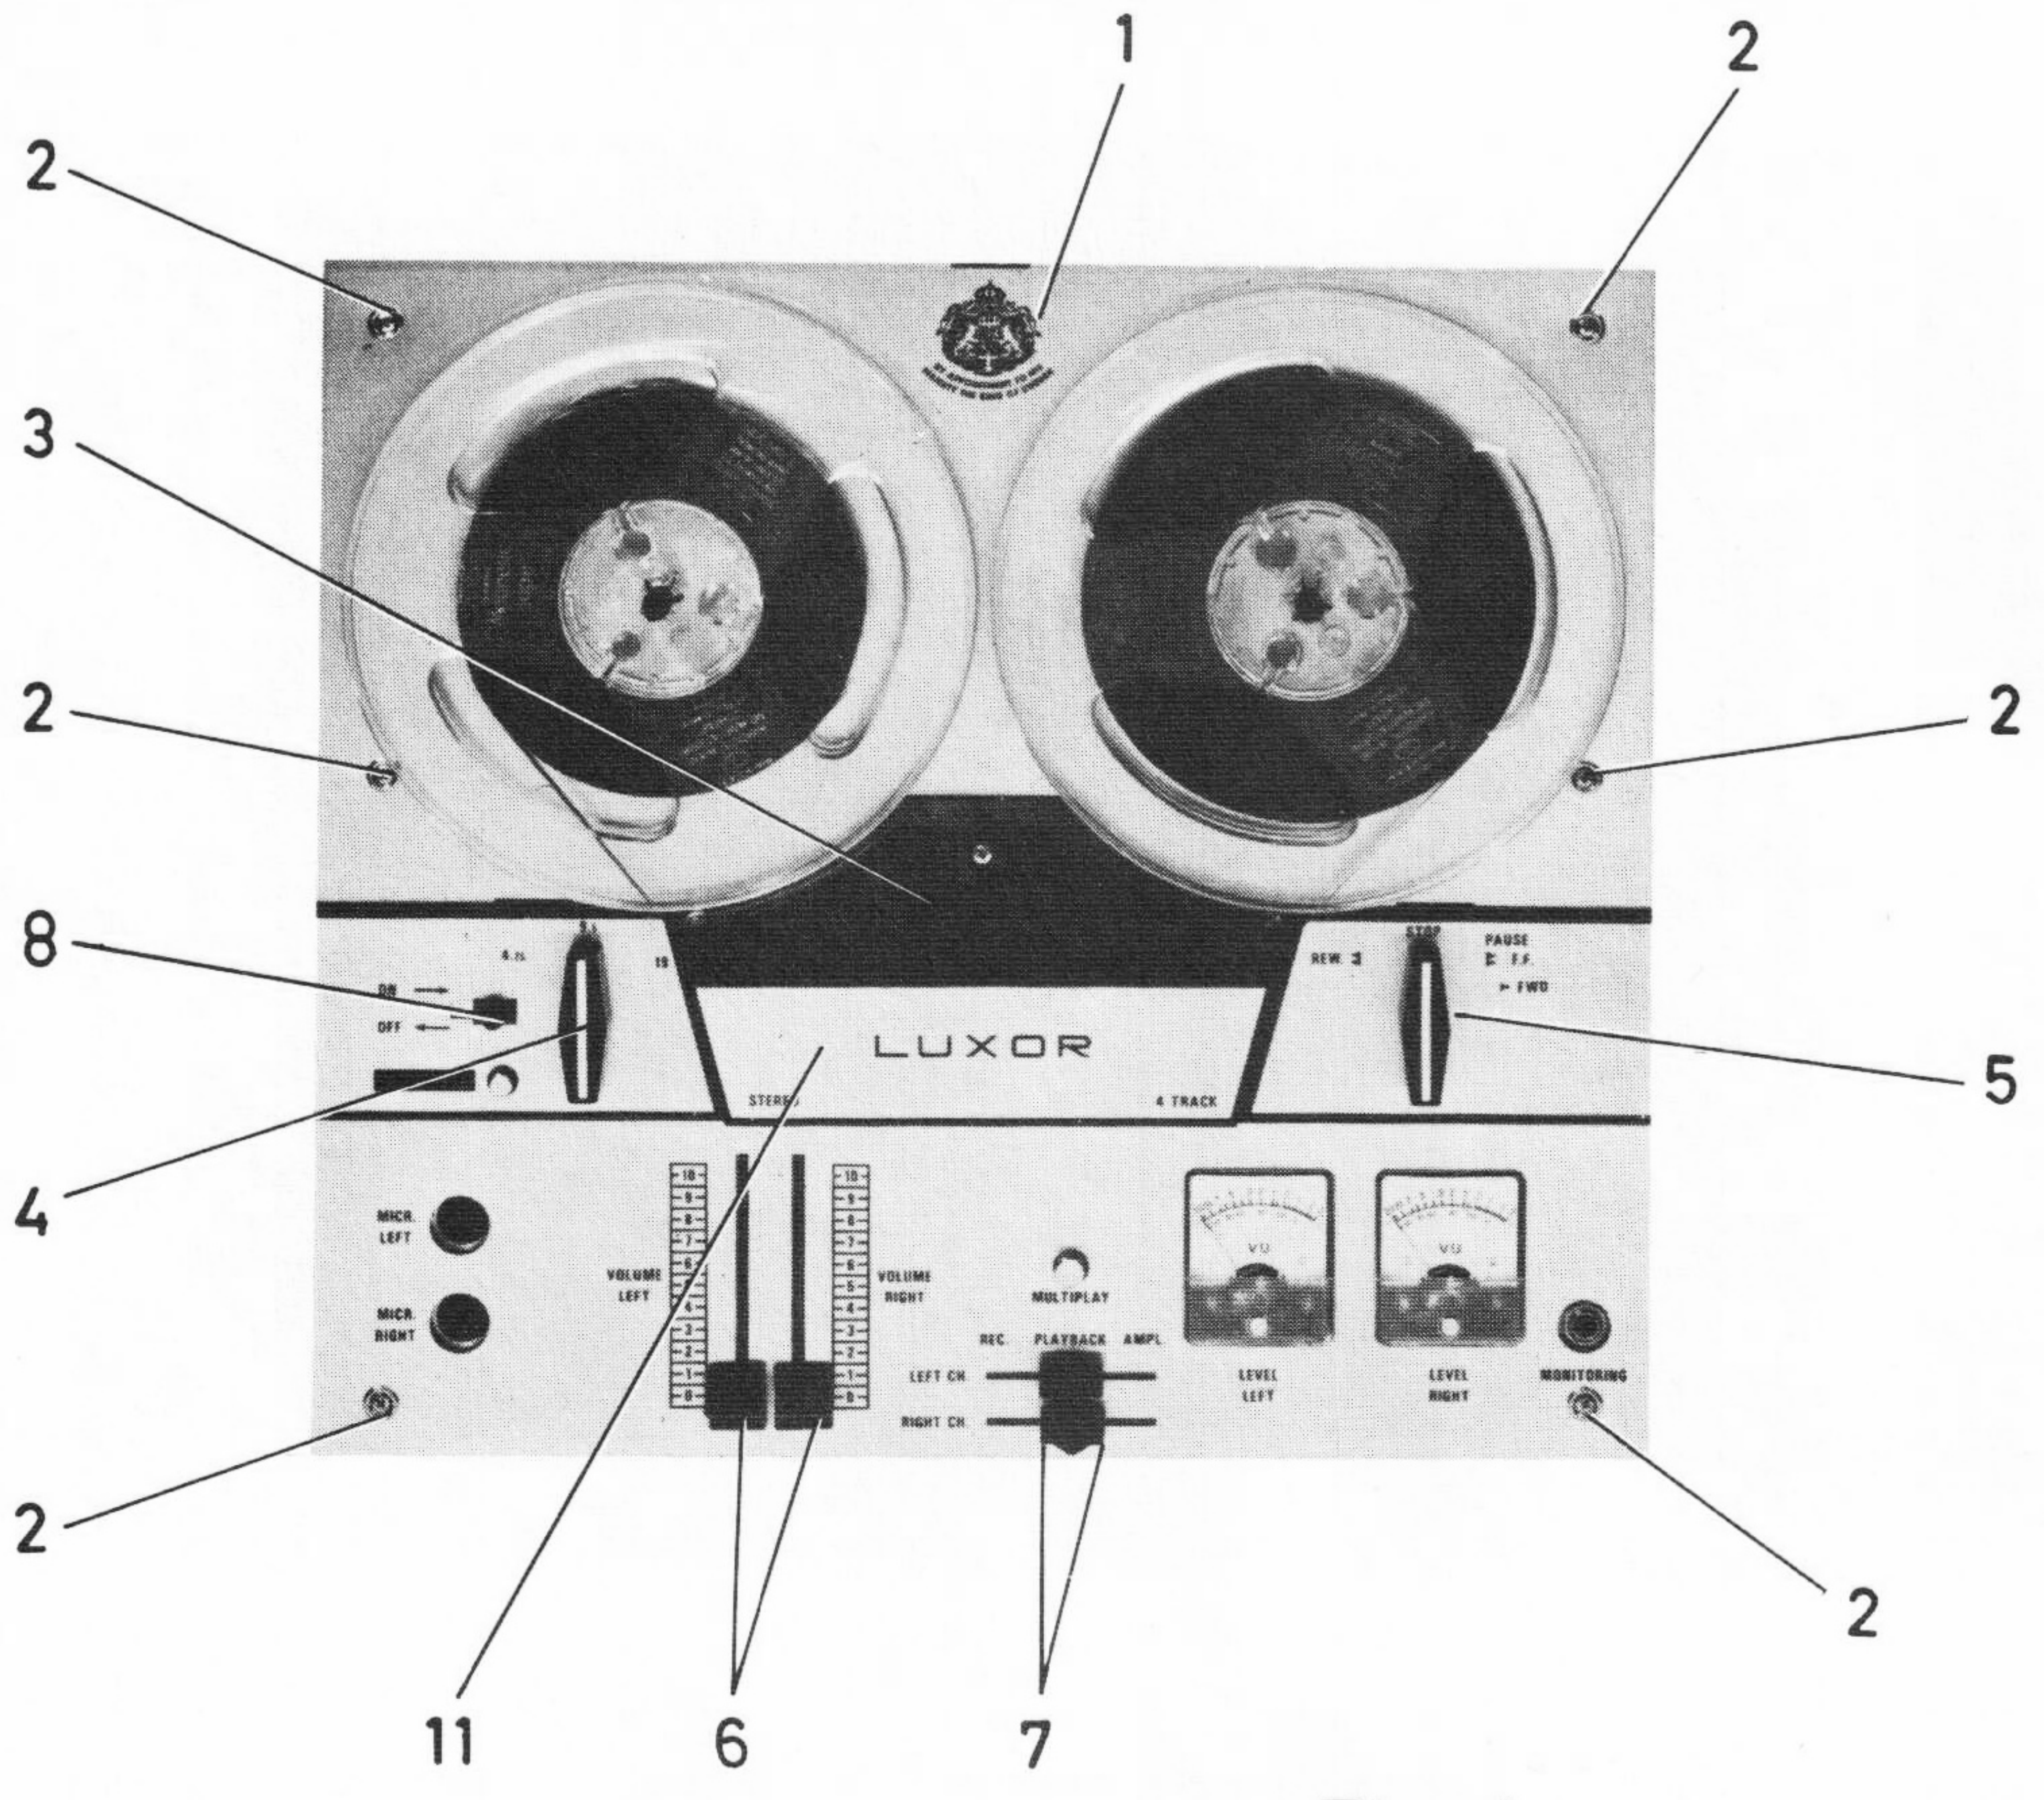
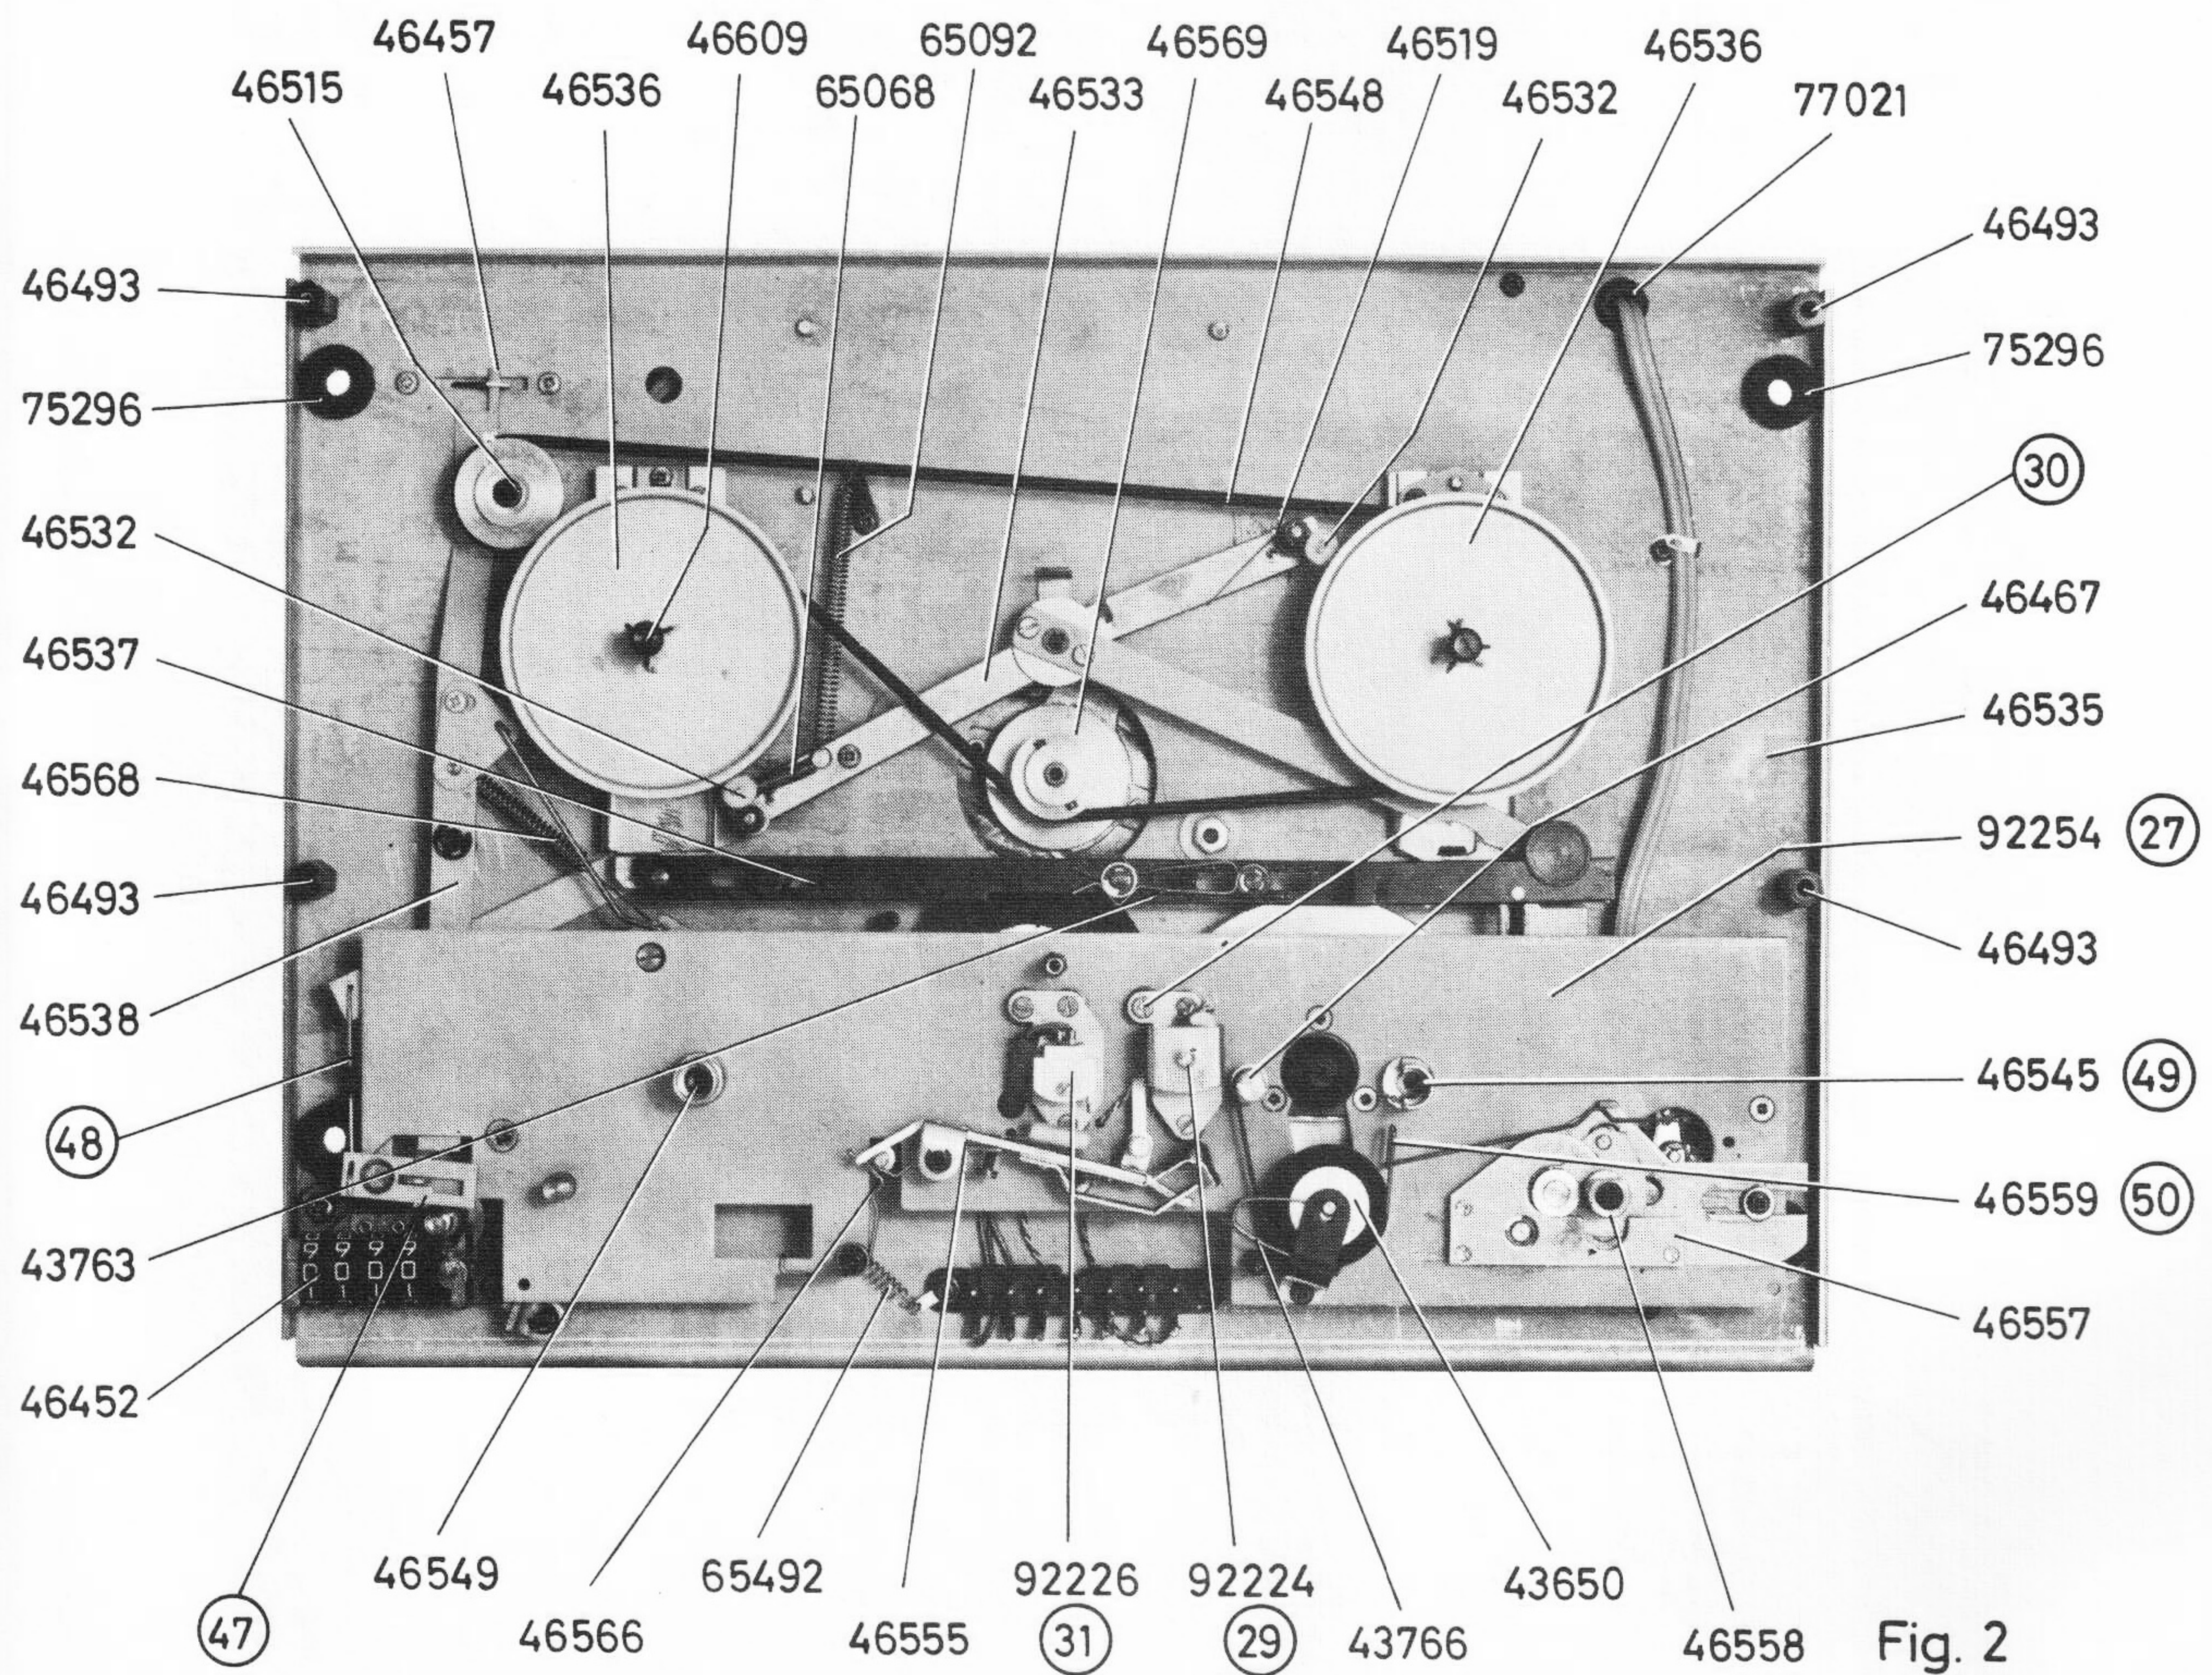
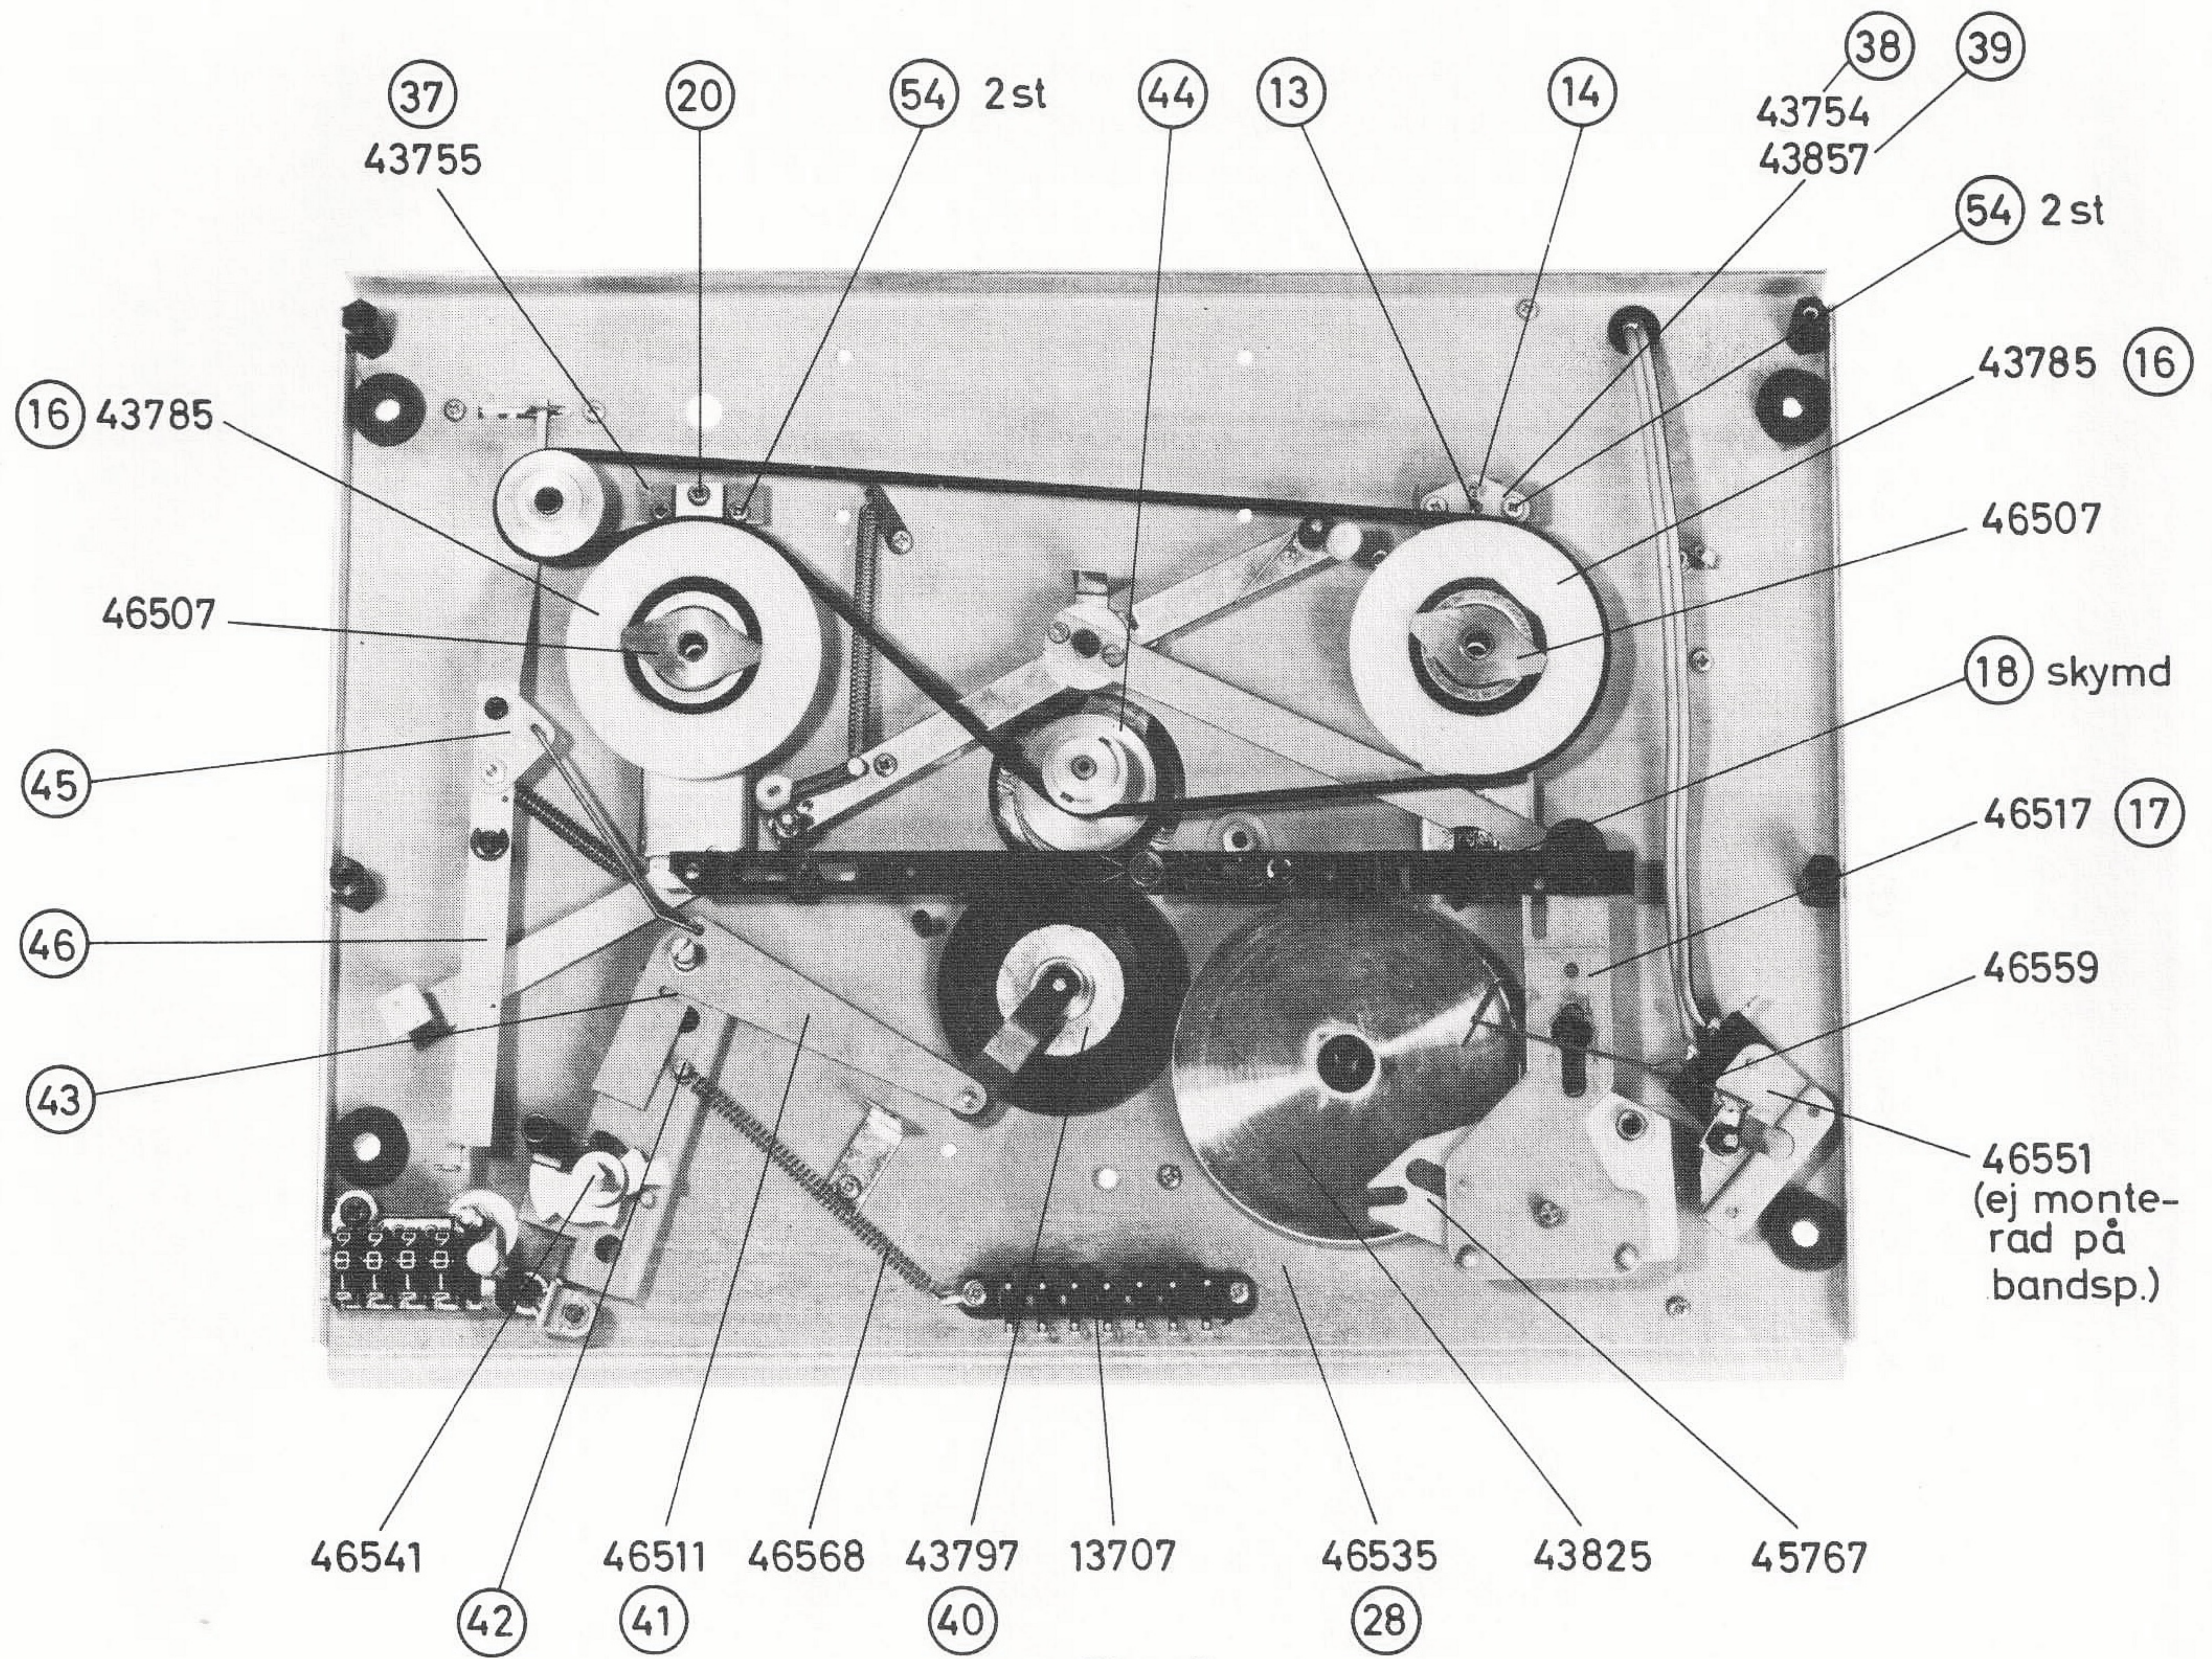
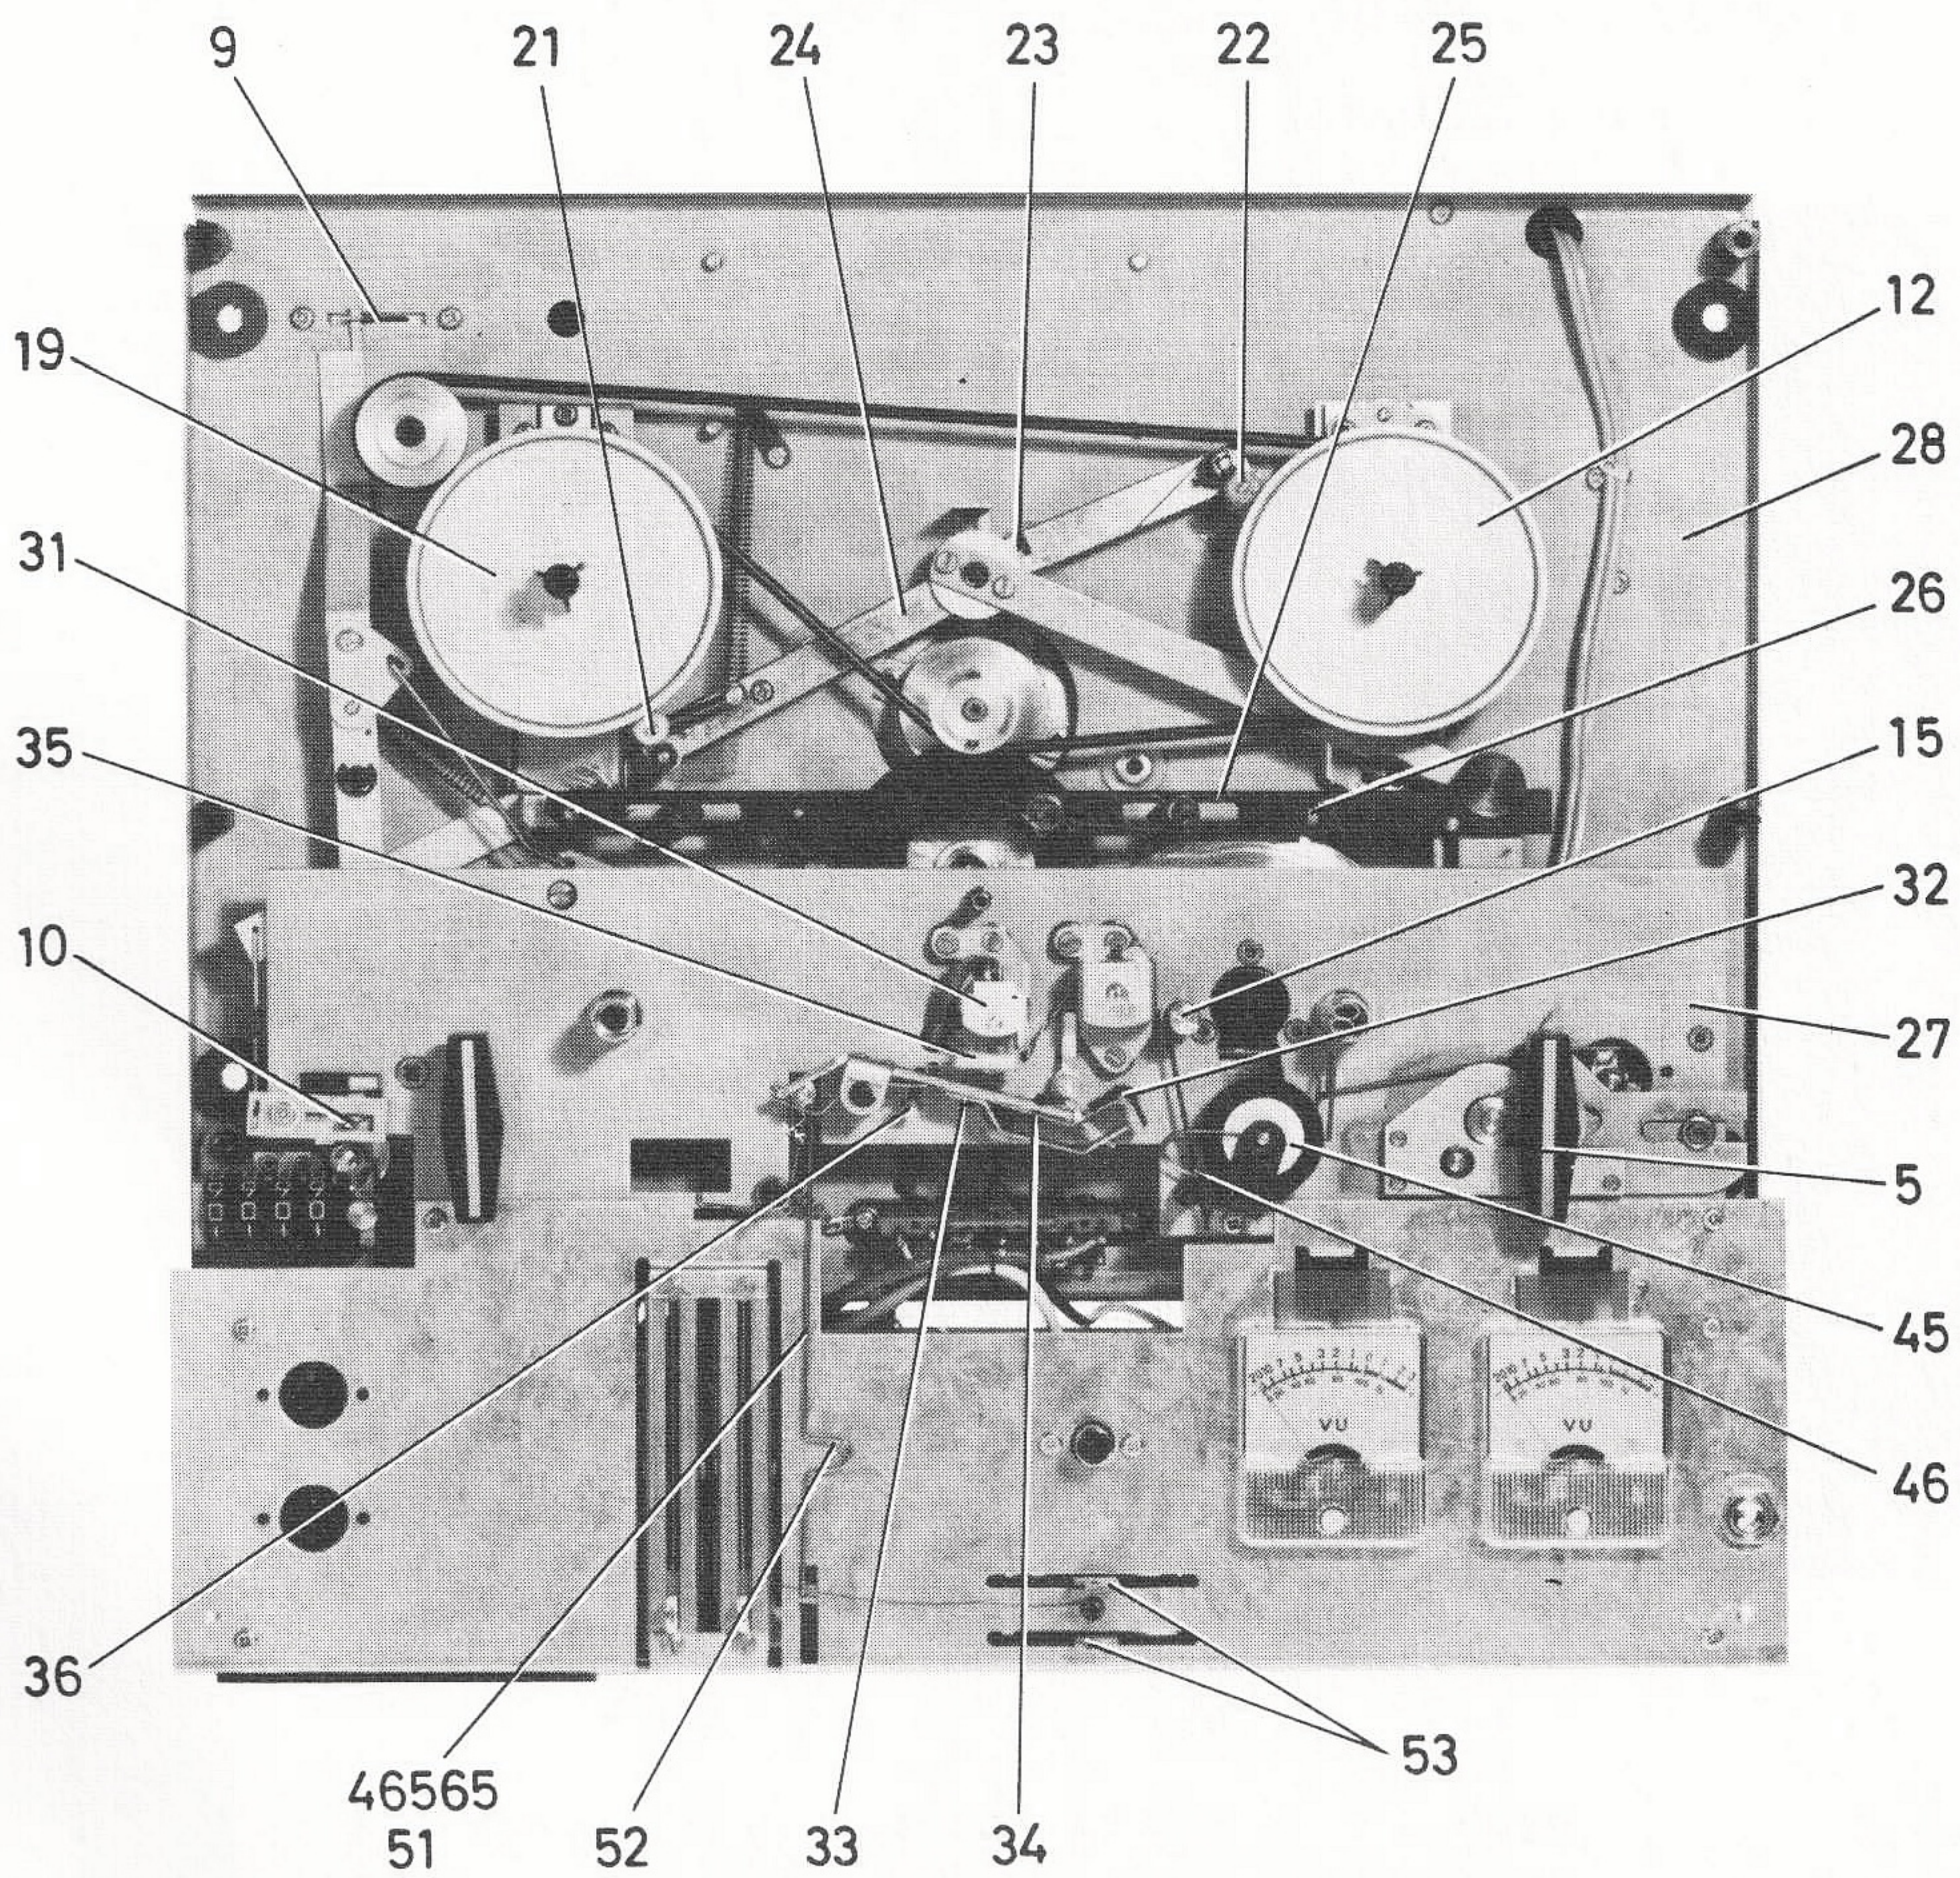

Fig. 1
Fig. 2
Fig. 3
Fig. 4
VILL MAN KOMMA ÅT DELAR UNDER TÄCKPLATTAN (1) FIG 1 MÅSTE DENNA AVTAGAS, VILKET TILLGÅR PÅ FÖLJANDE SÄTT:
DÄREMOT SKALL MANÖVERKNAPPEN (8) FÖR STRÖMSTÄLLAREN (9) FIG 4 EJ TAGAS BORT ENÄR DEN ÄR FÄSTAD I TÄCKPLATTAN. VID ÅTERMONTERING MÅSTE MAN TILLSE ATT DENNA KNAPP FÅR SAMMA LÄGE, SOM STRÖMSTÄLLARENS SPAK (10) FIG 4 SÅ ATT DENNA LÄTT GLIDER IN I MANÖVERKNAPPENS ÖPPNING UNDERTILL.
FRÄMRE MASKEN (11) FIG 1 KAN BORTTAGAS GENOM ATT DEN DRAGES UT.
ANVÄND EN TOMSPOLE MED EN INRE DIAMETER AV 57 MM, PÅ VILKEN ÄR UPP-LINDAD EN BIT SKALLINA. DENNA SPOLE PLACERAS PÅ BANDSPELARENS HÖGRA SPOLHJUL (12) FIG 4, VAREFTER LINANS FRIA ÄNDE FÄSTES I EN FJÄDERVÅG. (SPÄRRA DET AUTOM. STOPPET MED EN BIT PAPPER ELLER DYL.) VRID MANÖVERVREDET (5) (UTAN ATT TRYCKA IN DET) TILL LÄGE NORMALT FRAM ("FORW") OCH JUSTERA MED JUSTERSKRUVEN (13) FIG 3 TILLS FJÄDERVÅGEN VISAR 60 ± 5 GRAM. VRID SEDAN VREDET (5) FIG 4 TILL LÄGE STOPP ("STOP"), TRYCK IN OCH VRID DET TILL LÄGE SNABBT FRAM ("FF"). JUSTERA MED JUSTERSKRUVEN (14) TILLS VÅGEN VISAR $200 + 20$ GRAM. I BÅDA FALLEN SKALL MÄTNINGAR SKE MED APPARATEN STÅENDE OCH LINAN I LODRÄTT LÄGE.
KONTROLLERA ATT ETT AVSTÅND AV 0,5 - 0,7 MM FINNES MELLAN SPOLHJULETS (12) FIG 4 FRIKTIONSFILT OCH REMSKIVANS (16) FIG 3 ÖVRE FRIKTIONSYTA. (GÄLLER ÄVEN VÄNSTER SIDA.) OM SÅ ERFORDRAS GÖRS FÖLJANDE JUSTERINGAR:
PÅ MANÖVERARM (17) FIG 3 FINNS EN JUSTERMUTTER (18). AVSTÅNDET ÖKAS GENOM ATT SKRUVA NED JUSTERMUTTERN. MANÖVERVREDET (5) SKALL STÅ I STOPPLÄGE ("STOP"), DÅ DENNA JUSTERING GÖRES.
FÖR DETTA ANVÄNDES SAMMA MÄTANORDNING, SOM UNDER PKT 1. SPOLEN MED LINAN PLACERAS PÅ APPARATENS VÄNSTRA SPOLHJUL (19) FIG 4, VAREFTER DEN FRIA ÄNDAN FÄSTES I EN FJÄDERVÅG. TRYCK IN VREDET (5) OCH VRID DET TILL LÄGE "REW". JUSTERA MED JUSTERSKRUVARNA (20) FIG 3 TILLS FJÄDERVÅGEN VISAR $200 + 20$ GRAM.
STOPPBROMSARNA JUSTERAS SÅ ATT DÅ MANÖVERVREDET (5) FIG 4 STÄLLES I LÄGE SPELNING ("FORW") SKALL BROMSKLOTSARNA (21) OCH (22) LIGGA 0,3 - 0,5 MM FRÅN YTTERKANTEN PÅ SPOLHJULEN (12) OCH (19). EN AVVIKELSE MELLAN HÖGER OCH VÄNSTER HJUL JUSTERAS MED BOCKNING I SPÅRET (23) PÅ BROMSARMEN (24). STÄLL DÄREFTER MANÖVERVREDET I LÄGE SNABBT FRAM ("FF") OCH JUSTERA MANÖVERARMEN (25) I SPÅRET (26) SÅ ATT OVAN NÄMND AVSTÅND ERHÅLLES ÄVEN I DETTA LÄGE. KONTROLLERA ATT AVSTÅNDEN I LÄGE ÅTERSPOLN. ("REW") EJ ÄR MINDRE ÄN 0,3 MM.
DEN JUSTERBARA BANDSTYRNINGEN (15) FIG 4 INSTÄLLES I HÖJDLED SÅ ATT TONBANDET PASSERAR RAKT GENOM SAMTLIGA BANDSTYRNINGAR OCH FÖRBI RADÉRHUVUDET UTAN ATT PÅ NÅGOT STÄLLE VARE SIG TVINGAS UPP ELLER NED. RADÉRHUVUDETS LÖPYTA SKALL STÅ I RÄT VINKEL MED MANÖVERPLÅTEN (27). SE VIDARE UNDER PKT. 7.
LAGERBUSSNINGARNA FÖR HÖGER OCH VÄNSTER SPOLHJUL (12) OCH (19) KAN VID BEHOV RIKTAS I FÖRHÅLLANDE TILL MONTERINGSPLÅTEN (28) FIG 4 SÅ ATT BANDET SPOLAS I RÄTT HÖJD PÅ BANDSPOLARNA. BUSSNINGARNA RIKTAS MED EN KRAFTIG MEJSEL, SOM SÄTTES IN PÅ LÄMPLIGT STÄLLE I NÅGOT AV DE CIRKULÄRA SPÅREN KRING LAGERBUSSNINGARNA. GENOM EN BRYTNING I SIDLED PÅ SKRUVMEJSELN KAN NU DE FYRA EKRAR, SOM HÅLLER LAGERBUSSNINGEN, DEFORMERAS SÅ ATT EN ÄNDRING AV BANDSPOLNINGEN ERHÅLLES. I VILKET SPÅR MEJSELN SKALL SÄTTAS SAMT ÅT VILKET HÅLL DEN SKALL BRYTAS ÄR BEROENDE AV HUR BANDET LINDAR OCH FÅR BEDÖMAS FRÅN FALL TILL FALL. EFTER DENNA JUSTERING FÅR BANDET EJ SPOLAS NÄRMARE NÅGON AV BANDSPOLENS FLÄNSAR ÄN 0,3 MM.
TONHUVUDET (29) FIG 2 JUSTERAS I HÖJDLED SÅ ATT ÖVRE KANTEN AV DESS ÖVRE KÄRNPLÅT KOMMER 0,1 - 0,2 MM UNDER TONBANDETS ÖVERKANT. TONHUVUDETS FÄSTPLÅT SKALL VARA PARALLELL MED MANÖVERPLÅTEN (27). MAX. AVVIKELSE 0,2 MM MELLAN FÄSTPLÅTENS FRÄMRE OCH BAKRE DEL. SPALTVINKELN INJUSTERAS MED HJÄLP AV TESTBAND. SKRUVEN (30) JUSTERAS SÅ ATT MAX. SIGNAL ERHÅLLES VID AVSPELNING AV ETT SPECIELLT BRUSBAND.
RADÉRHUVUDET (31) FIG 2 JUSTERAS SÅ ATT TONBANDET PASSERAR RAKT FÖRBI HUVUDET UTAN ATT TVINGAS VARE SIG UPP ELLER NED. FÄSTPLÅTTANS FRÄMRE OCH BAKRE DEL SKALL LIGGA PÅ SAMMA HÖJD FRÅN MANÖVERPLÅTEN MED EN AVVIKELSE AV MAX. 0,2 MM.
TONHUVUDETS TRYCKKUDDE (32) FIG 4 JUSTERAS FÖRST I SIDLED EFTER LOSSNING AV SKRUVARNA (33) OCH (34) SÅ ATT DEN KOMMER MITT FÖR HUVUDETS KÄRNPLÅTAR, VAREFTER SKRUVEN (33) DRAS TILL. SEDAN JUSTERAS KUDDARNAS TRYCK MEDELST SKRUVEN (34) MOT TONHUVUDET SÅ ATT DET FORDRAS EN KRAFT AV 25 POND ATT FÖRA ETT TONBAND FÖRBI HUVUDET. SLUTLIGEN JUSTERAS RADÉRHUVUDETS (31) TRYCKKUDDE (35) MED SKRUVEN (36) SÅ ATT FRIKTIONSKRAFTEN MÄTT PÅ SAMMA SÄTT UPPGÅR TILL 50 + 2 POND DÅ BANDET POSERAR BÅDE RADÉR- OCH TONHUVUD.
MANÖVERFJÄDRARNA (37), (38) OCH (39) FIG 3 MONTERAS SÅ ATT FJÄDRARNAS RÖRELSER I HÖJDLED EJ HINDRAS. SE DÄREFTER TILL ATT FJÄDRARNA HÅLLES I NEUTRALT LÄGE DÅ DERAS FÄSTSKRUVAR (54) ÅTDRAGES.
MED VREDET (4) FIG 1 FÖR HASTIGHETSINSTÄLLNING I LÄGE 19 CM/SEK KONTROLLERAS ATT MELLANHJULET (40) FIG 3 LIGGER PARALLELLT MED MONTERINGSPLÅTEN (28) OCH ATT MELLANHJULETS LAGERTAPP LIGGER PÅ ETT AVSTÅND AV 0,5 - 1,0 MM FRÅN DENNA PLÅT. VID BEHOV BOCKAS MELLANHJULETS MANÖVERARM (41) UPP ELLER NED. KONTROLLERA ÄVEN MED VREDET (4) FIG 1 I SAMTLIGA TRE LÄGEN ATT SPEL FINNS MELLAN TAPPEN (42) FIG 3 OCH MELLANHJULETS MANÖVERARM (41). DETTA SPEL KAN JUSTERAS IN GENOM BOCKNING AV MANÖVERARMEN (41) I SPÅRET (43). SPELET SKALL HÅLLAS MELLAN 1 OCH 2 MM. DÅ STRÖMSTÄLLAREN SLÅS IFRÅN MED SPAKEN (8) FIG 1 SKALL MELLANHJULET LYFTAS UT 1-3 MM FRÅN DRIVRULLENS (44) FIG 3 DRIVBANA FÖR 19 CM/SEK. JUSTERAS GENOM VRIDNING AV JUSTERPLÅTEN (45) PÅ MANÖVERARM (46).
MOTORNS DRIVRULLE (44) FIG 3 JUSTERAS I HÖJDLED SÅ ATT DÅ VREDET (4) FIG 1 STÅR I LÄGE 4,75 CM/SEK SKALL ETT SPEL AV 1,5 MM FINNAS MELLAN UNDER KANTEN AV MELLANHJULETS GUMMIBANA OCH ÖVRE KANTEN AV DRIVRULLENS DRIVBANA FÖR 9,5 CM/SEK. MEDAN RULLEN HÅLLES I RÄTT LÄGE ÅTDRAGES EN AV DESS SKRUVAR LÖST, VAREFTER DEN ANDRA SKRUVEN ÅTDRAGES HÅRT.
12) MONTERING AV TRYCKRULLEN (45) FIG 4.
VID MONTERING OCH DEMONTERING AV DE TVÅ FJÄDRARNA (46) FIG 4 SKALL STOR FÖRSIKTIGHET IAKTTAGAS SÅ ATT DE EJ DEFORMERAS, VILKET KAN MEDFÖRA ATT DET BLIR FÖR LÅG FJÄDERKRAFT ELLER ATT KRAFTERNA BLIR OLIKA STORA UPPE OCH NERE, VARVID BANDFÖRINGEN FÖRSÄMTRAS MED HÖGRE SVAJVÄRDEN SOM FÖLJD.
13) JUSTERING AV SPÄRREN FÖR STRÖMSTÄLLAREN (9)
SPÄRREN (47) FIG 2 JUSTERAS GENOM BOCKNING AV DESS MANÖVERTRÅD (48) SÅ SÄKER SPÄRRNING ERHÅLLES I ALLA KÖRLÄGEN OCH ATT SPÄRRNINGEN UPPHÖR I STOPPLÄGET ("STOP").
HÖGRA BANDSTYRNINGEN (49) FIG 2 VRIDES I SÅDANT LÄGE ATT MIKROBRYTARENS MANÖVERTRÅD (50) KAN PASSERA FRITT MELLAN BANDSTYRNINGENS "PLANNA" DEL OCH PINNEN. BRYTLÄGET JUSTERAS GENOM BOCKNING AV DEN NEDBÖJDA FLIK, SOM TRYCKER MOT MIKROBRYTARENS EGEN BRYTARPINNE.
UTLÖSNINGSTRÅDEN (51) FIG 4 TILLÅTER FUNKTIONSKOPPLAREN (53) ATT ÅTERGÅ TILL UTGÅNGSLÄGE EFTER EN INSPELNING DÅ VREDET (5) FÖRES TILL STOPPLÄGE ("STOP"). JUSTERA SÅ ATT FUNKTIONSKOPPLARSPAKARNA SÄKERT SPÄRRAS I LÄGE "REC" GENOM BOCKNING AV UTLÖSNINGSTRÅDENS JUSTERSLINGA (52).